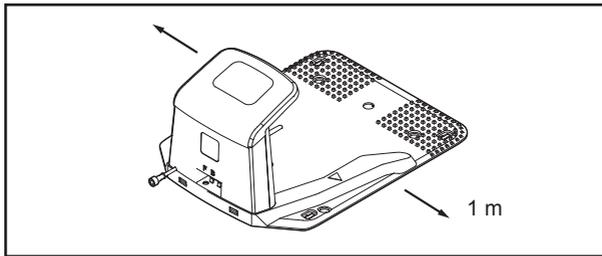

Fig. 14
- Place the charging station (12) in an area that is easily accessible to the power source, with protection from direct sunlight and extreme weather conditions.
- Place the charging station (12) alongside a wall or fence, ensuring it is not obstructing any pathways or entrances. Leaving free space of at least 1 metre on the inner side of the charging station (12) (Fig. 14).